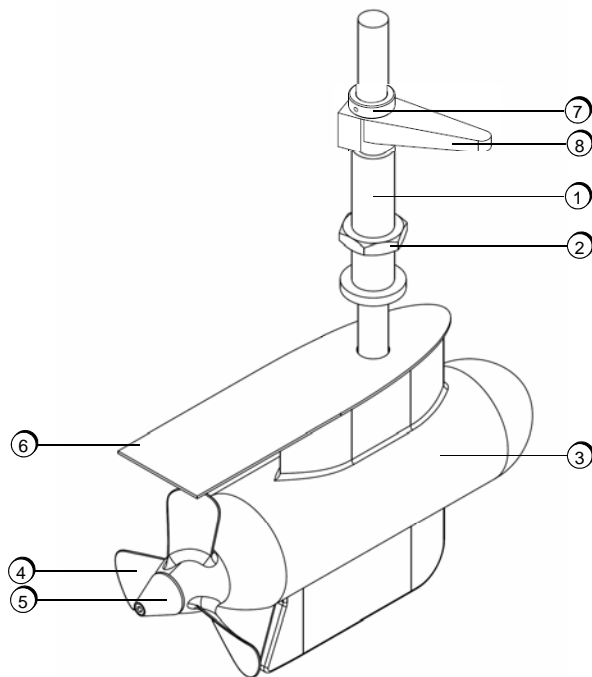

Figure 5: The PodMaster Steerable motor
2. Remove the lever arm, supporting rings and mounting nut from the rudder trunk (see Figure 5, item 2, 6 and 7).
4. Fix the rudder trunk to the hull by using the mounting nut (see Figure 5, item 2).